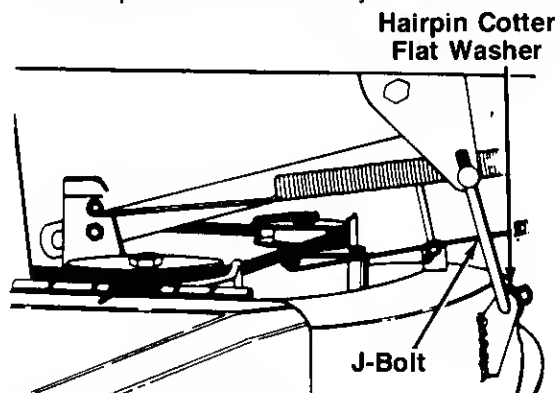

FIGURE 25B.—Model 13518
3. If the front is not between 1/4" and 3/8" lower than the rear, remove the hairpin cotters and flat washers which secure the J-bolts to the front of the deck, both right and left sides. See figure 25B. Thread the J-bolts into or out of the ferrules as necessary.